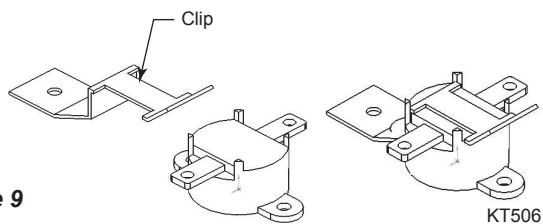

Figure 9
1. Slide the thermal sensor into the clip until it snaps into place. Make sure the terminals on the thermal sensor are perpendicular to the clip. *Figure 9*
2. Run the two (2) hi-temp wires provided down the side of the firebox into the lower access compartment.